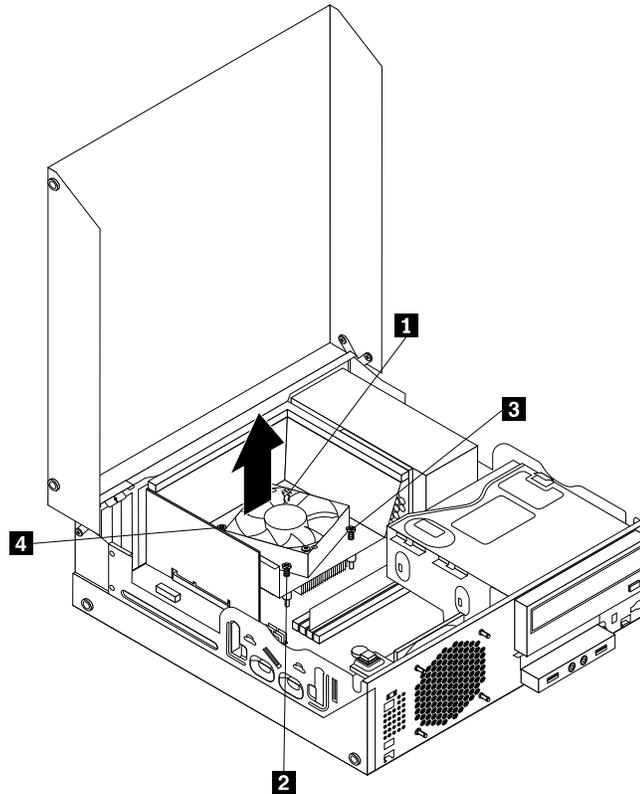

Figure 18. Screws that secure the heat sink and fan assembly
- Follow this sequence to install the four screws to secure the new heat sink and fan assembly, as shown in Figure 18 “Screws that secure the heat sink and fan assembly” on page 39: